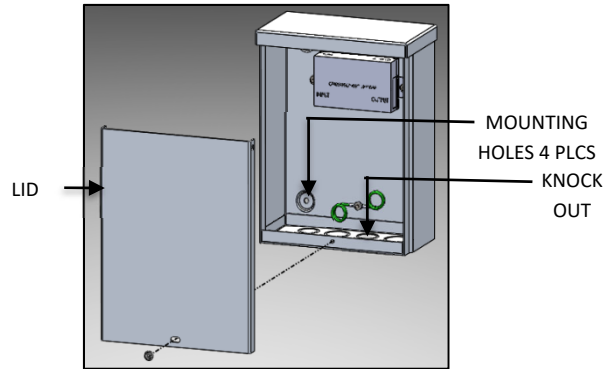

FIG. 6 – REMOTE DRIVER BOX
2. Remove the lid of the REMOTE DRIVER HOUSING as shown in FIG. 6 below.